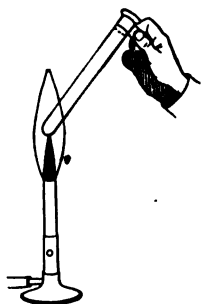

Fig. 13.
2. Hold the i.t. with a tube holder of paper, wood, or metal, moving the tube sidewise alternately into and out of the flame for a minute, to prevent breakage, then hold it *steadily* in the middle of the flame, 5 or 6 cm above the lamp, at an angle of about  $45^\circ$ , so as to heat the lower part of the mixture first (Fig. 13).